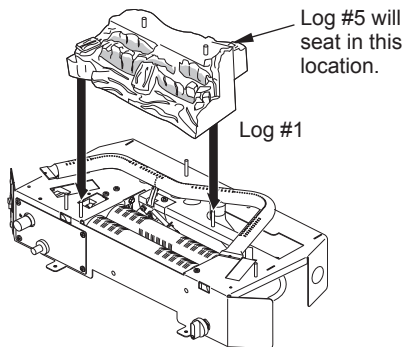
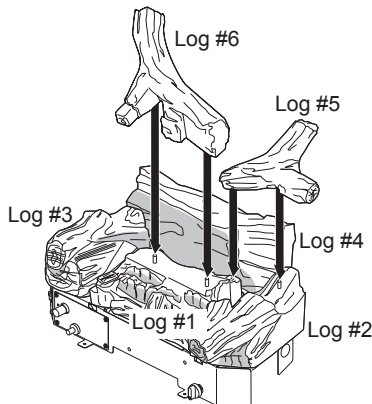

Figure 19 - Installing Log #1 (Ember Bed) (Model CSG3924NR Shown)
Figure 25 - Installing Log #5 and Log #6 (Model VRL30NR Shown)
1. Place log #1 (ember bed) onto base over alignment screws to left of front burner and behind middle burner. Log #1 will sit on top of front and middle burners (see Figure 19).
- Place log #1 (ember bed) onto base over log alignment screws to the left of front burner and behind middle burner. Log #1 will sit on top of front and middle burners (see Figure 19, page 18).
- Locate hole on bottom of log #5 and place over pin on log #2. Log #5 will rest on back of log #1 (ember bed). See Figure 19, page 18 and Figure 25.
- Place log #6 onto two pins on log #1 (ember bed) and rest back of log #6 on back log #4 (see Figure 25).